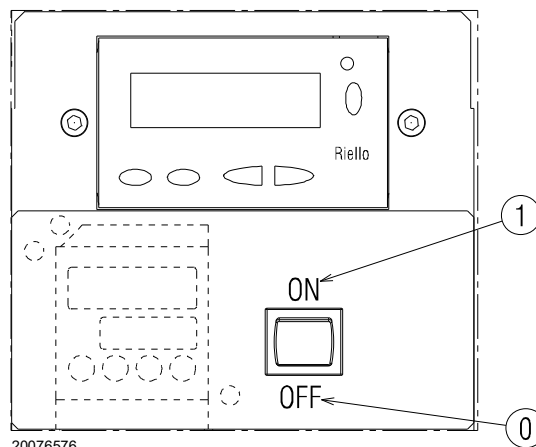

Fig. 25
Close the thermostats/pressure switches and set the switch of Fig. 25 to “1/ON”.
- put the switch of Fig. 25 to “0/OFF” and wait until the flame control carries out the switching off phase;
The burner is in the heat request waiting mode, or the selector "0-1" (Fig. 25 on page 27) is at "0".